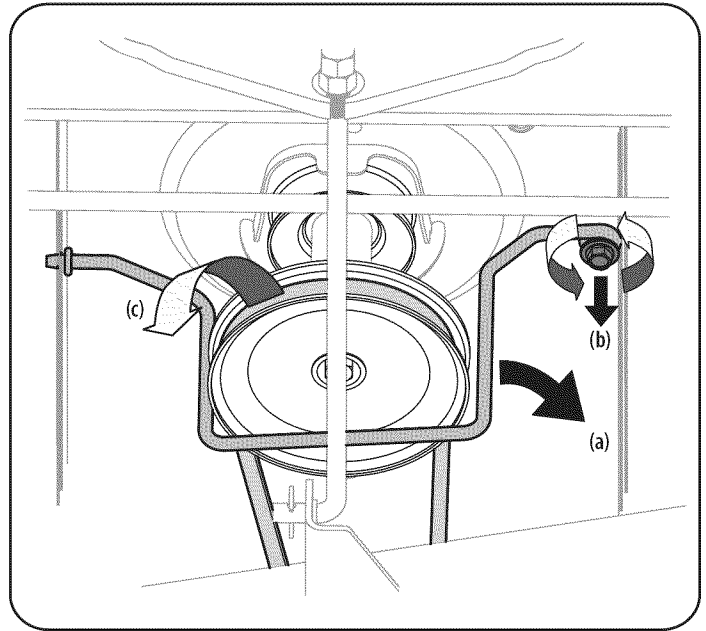

Figure 23
- Remove the belt-keeper rod (a), from around the tractor's engine pulley, by removing the self-tapping screw (b) that secures it. See Figure 23.
- Remove the belt (c) from around the tractor's engine pulley and idler pulley(s). See Figure 23.